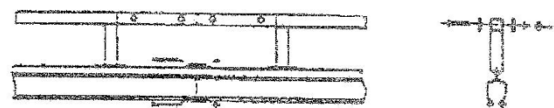

FIG 3A
- 3.1 Using 5/16" bolt splice kit (supplied) attach runways. (FIG 3A)